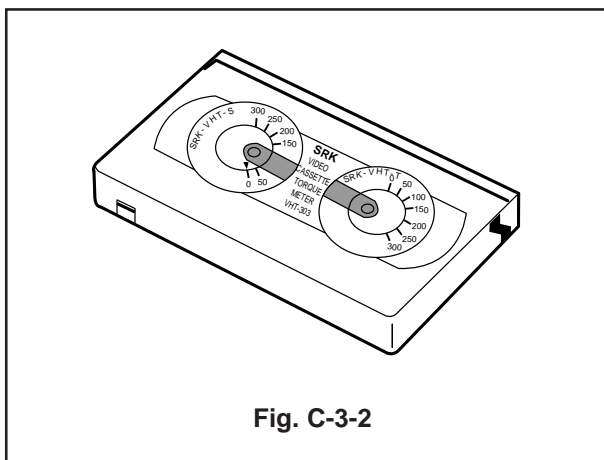

Fig. C-3-2
| <ul style="list-style-type: none"> • Torque Gauge(600g/cm ATG) • Torque Gauge Adaptor • Cassette Torque Meter SRK-VHT-303 | <ul style="list-style-type: none"> • Play (FF) or Review (REW) Mode | <ul style="list-style-type: none"> • Perform each Deck Mechanism Mode without inserting a Cassette Tape(Refer to above No.2 Preparation for Adjustment). • Read the Measurement of the Take-up or Supply Reels on the Cassette Torque Meter(Fig. C-3-2). • Attach the Torque Gauge Adaptor to the Torque Gauge and then read the Value of it(Fig. C-3-1). |